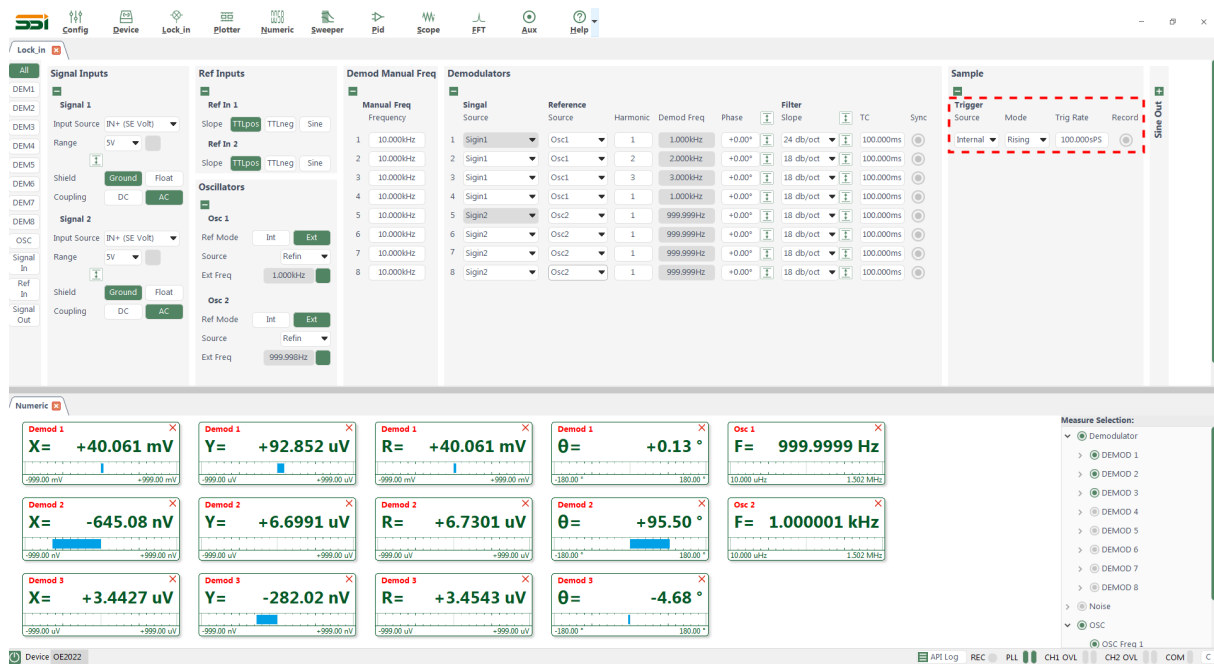

Figure 84. Data saving configuration area
1. When the software is running, click the "Record" button in the red box in Figure 84 to start data acquisition and logging.